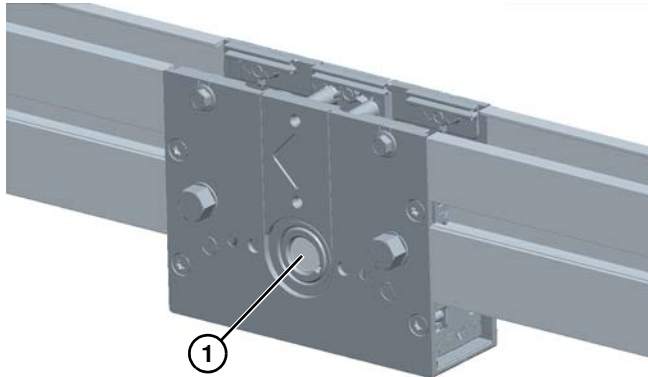

Figure 30
5. From opposite side, using a punch and hammer, carefully tap the shaft (**Figure 30, item 1**) out of the mid drive assembly.